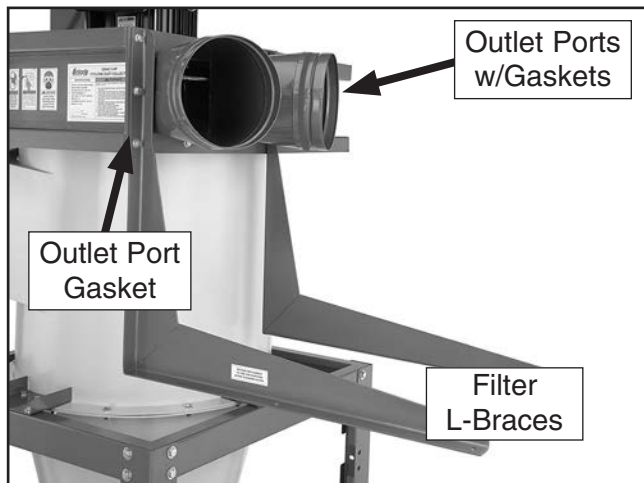

Figure 31. Filter L-braces mounted to blower housing.
29. Attach (1) 3 x 15 x 700mm gasket to the outer circular rims of each outlet port.
30. Mount the outlet port to the blower housing with (4) $\frac{5}{16}$ "-18 x 1" hex bolts, (8) $\frac{5}{16}$ " flat washers, and (4) $\frac{5}{16}$ "-18 hex nuts (see **Figure 31**).